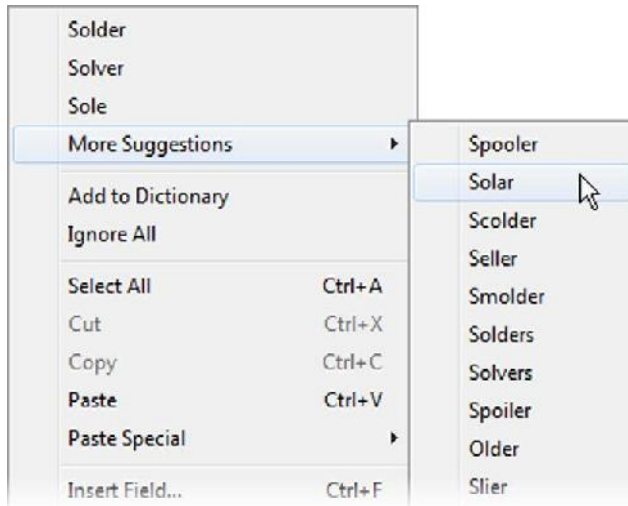

FIGURE 8.71: Using the context menu to replace a misspelled word
8. Click or pause the cursor over the More Suggestions options; then click *Solar*, as shown in Figure 8.71.